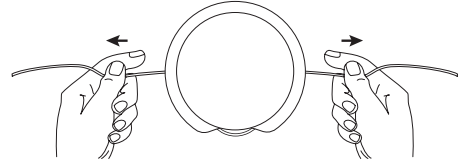

Fig. 19
3. Pull the ends through making sure that the ends are of equal length and the middle of the line is centered between the insertion holes (Fig. 19).